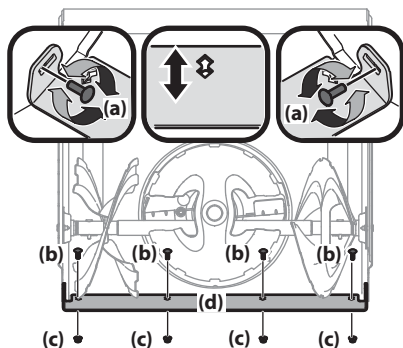

Figure 2-56
3. Loosen rear skid shoe bolts (a) on both sides of auger housing and remove carriage bolts (b) and hex nuts (c) which attach shave plate (d) to the bottom of the auger housing. See Figure 2-56.
4. Adjust the shave plate to one of 2 mounting positions. Reinstall and tighten the carriage bolts (b) and hex nuts (c) all bolts securely. See Figure 2-56.